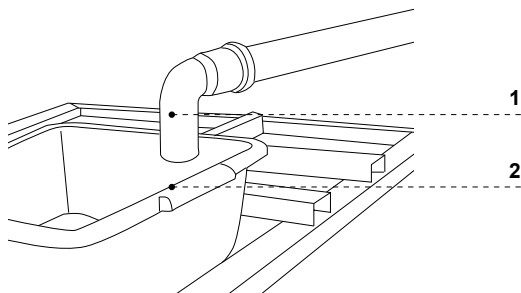

Fig.9 Condensate container in Bermuda device (version without evaporator)
- **(Concerns Bermuda device)** Place the condensate container on the basis of the device, under the water outlet hose Fig. 9/2 (p.20). In case of device with evaporator, this container acts as overflow Fig. 10/2 (p.20).